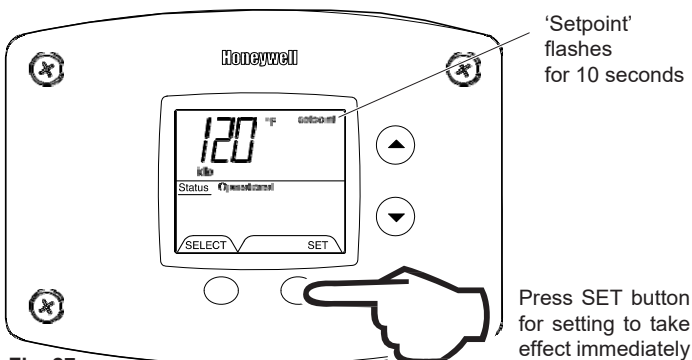

Fig. 27
3. Press 'SET' button for new setting to take effect immediately. 'Setpoint' will stop flashing. If the "SET" button is not pressed, the new temperature setting will take effect in approximately 10 seconds (Fig. 27).